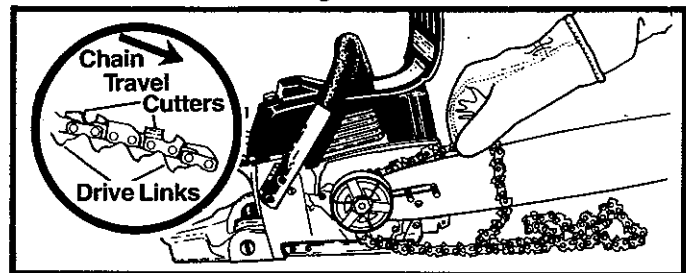

Figure 10
3. Hold chain with cutters facing as shown in Figure 10.
7. Start at the top of the bar and fit the chain drive links into the groove around the Guide Bar. Figure 10.